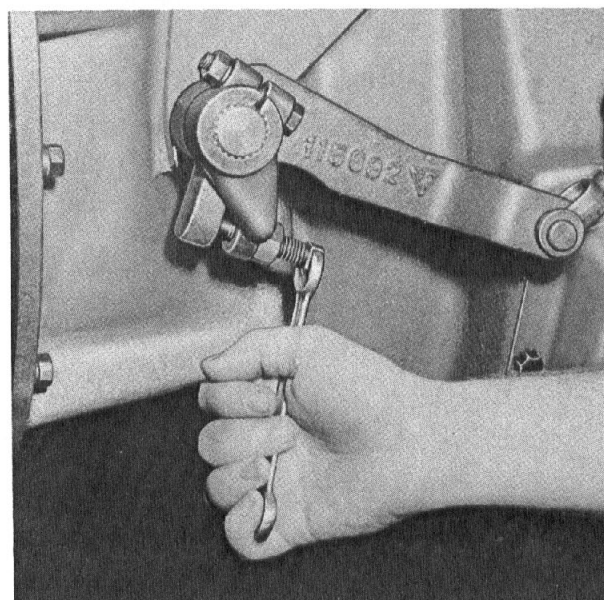

Fig. 30 - Adjusting Clutch Pedal Linkage.
(4) If inspection indicates clutch pedal 'free travel' is less than ½", immediate adjustment of the clutch pedal linkage should be made to restore proper 1½" 'free travel,' Fig. 30. This 1½" pedal 'free travel' normally results in 1/8" clearance between the clutch release levers and release bearing.
(5) If excessive free play is present in the clutch pedal linkage due to worn parts, the worn parts must be replaced. Excessive wear of the release linkage may give a false impression of the actual amount of release bearing clearance.